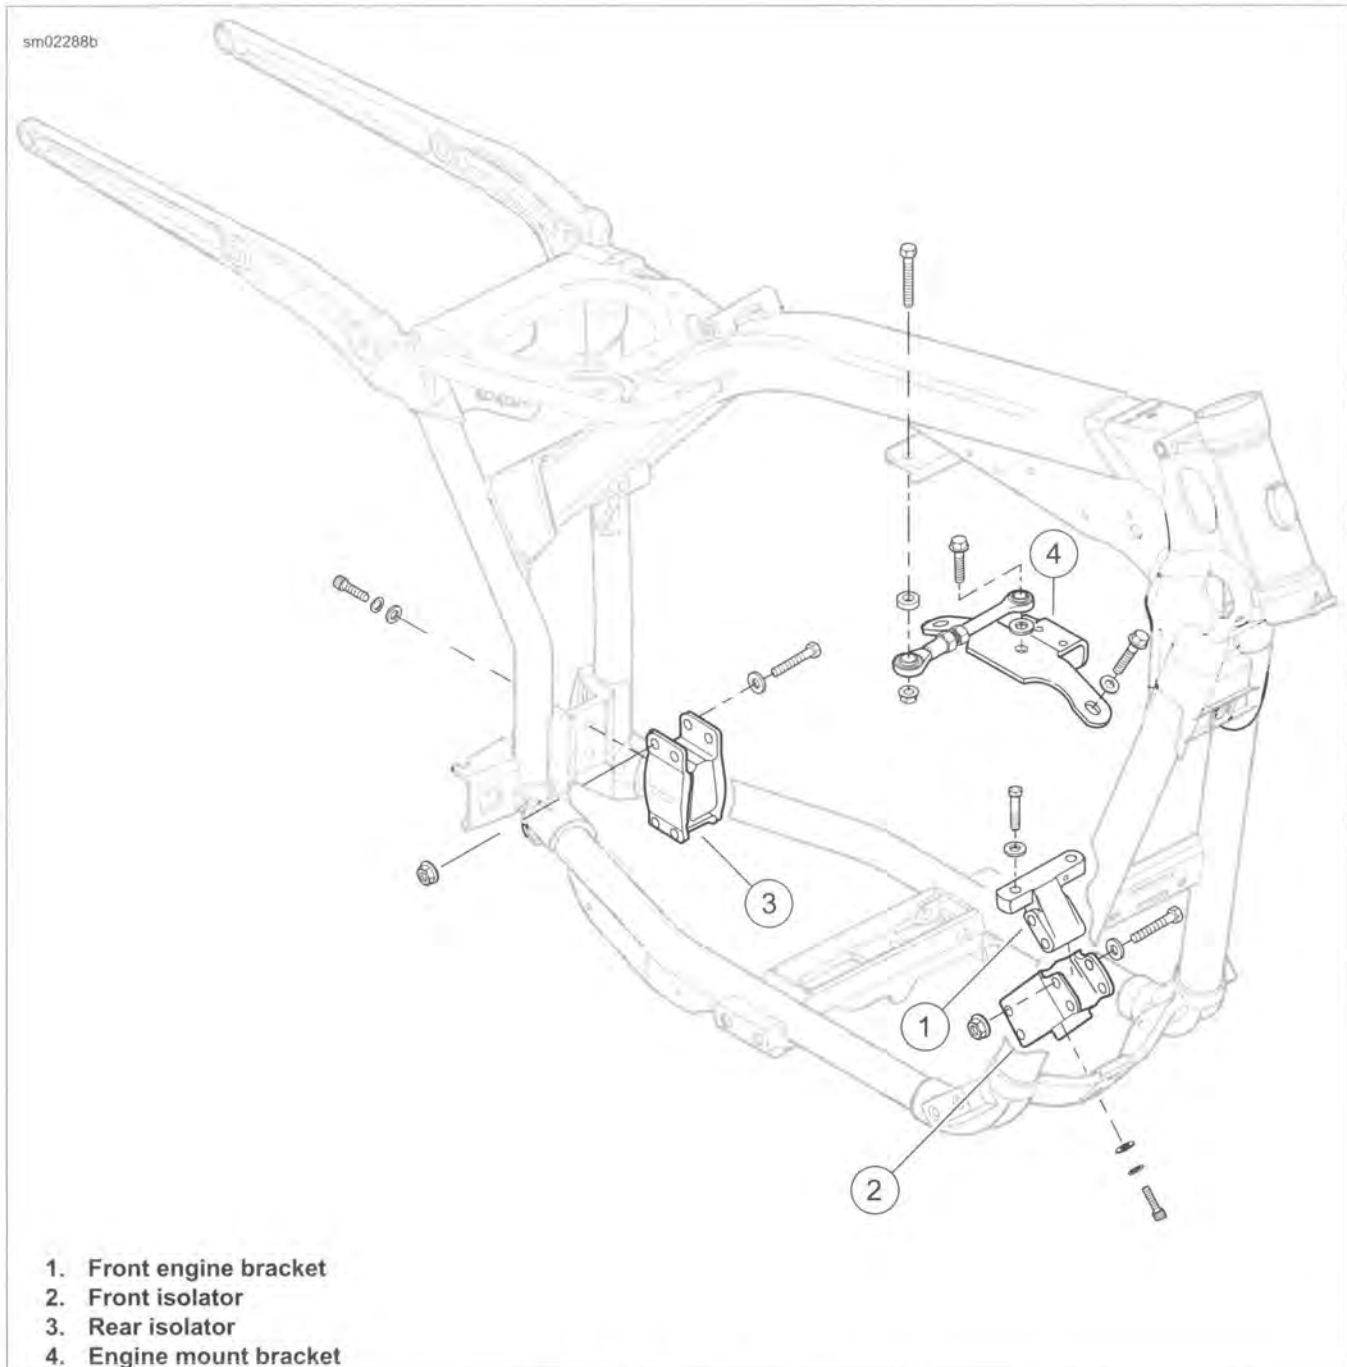

Figure 1-41. Engine Mounts
1. See Figure 1-41. Check for cracks or tears in the isolator rubber.
6. Check that a minimum of 0.030 in (0.76 mm) clearance exists between engine bracket (1) and engine isolator (2).